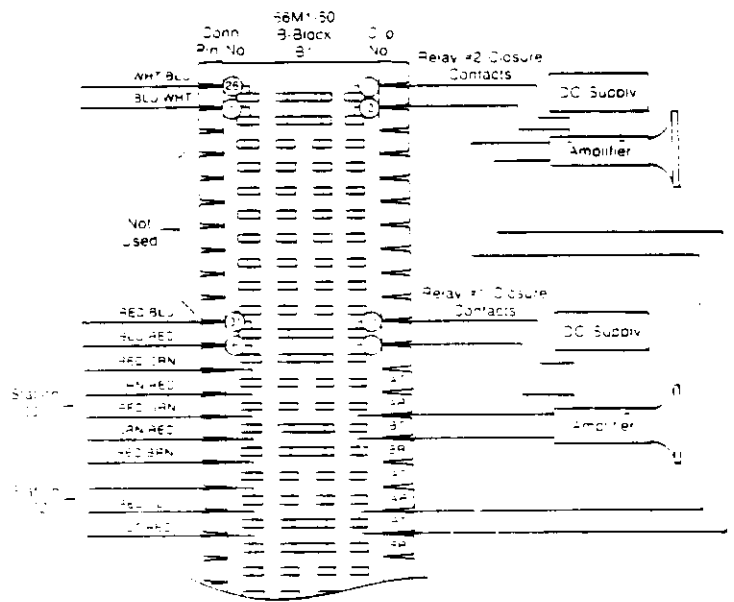

Figure 6-3 TYPICAL OPTIONAL CONNECTIONS USING ALTERNATE AUDIO PORTS, EK-824/1232/1648
3.12 Refer to Figure 6-3 and install the external paging components as follows (EK-1648 KSU shown):
3.17 Refer to Figure 6-3 and install the loud ringing circuit for relay #2 as follows (EK-1648 KSU shown):